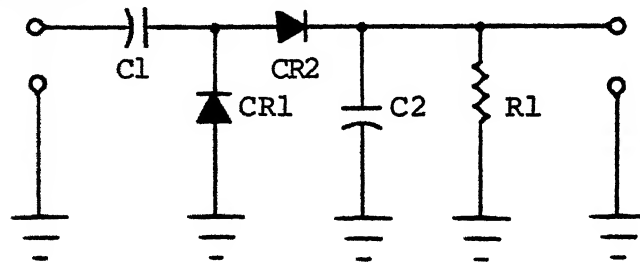

FIGURE 3 - HALF-WAVE VOLTAGE DOUBLER
3. Refer to figure 3. The function of CR1 is to provide a charge path for C1. The function of CR2 is to provide a discharge path for C1 and a charge path for C2.